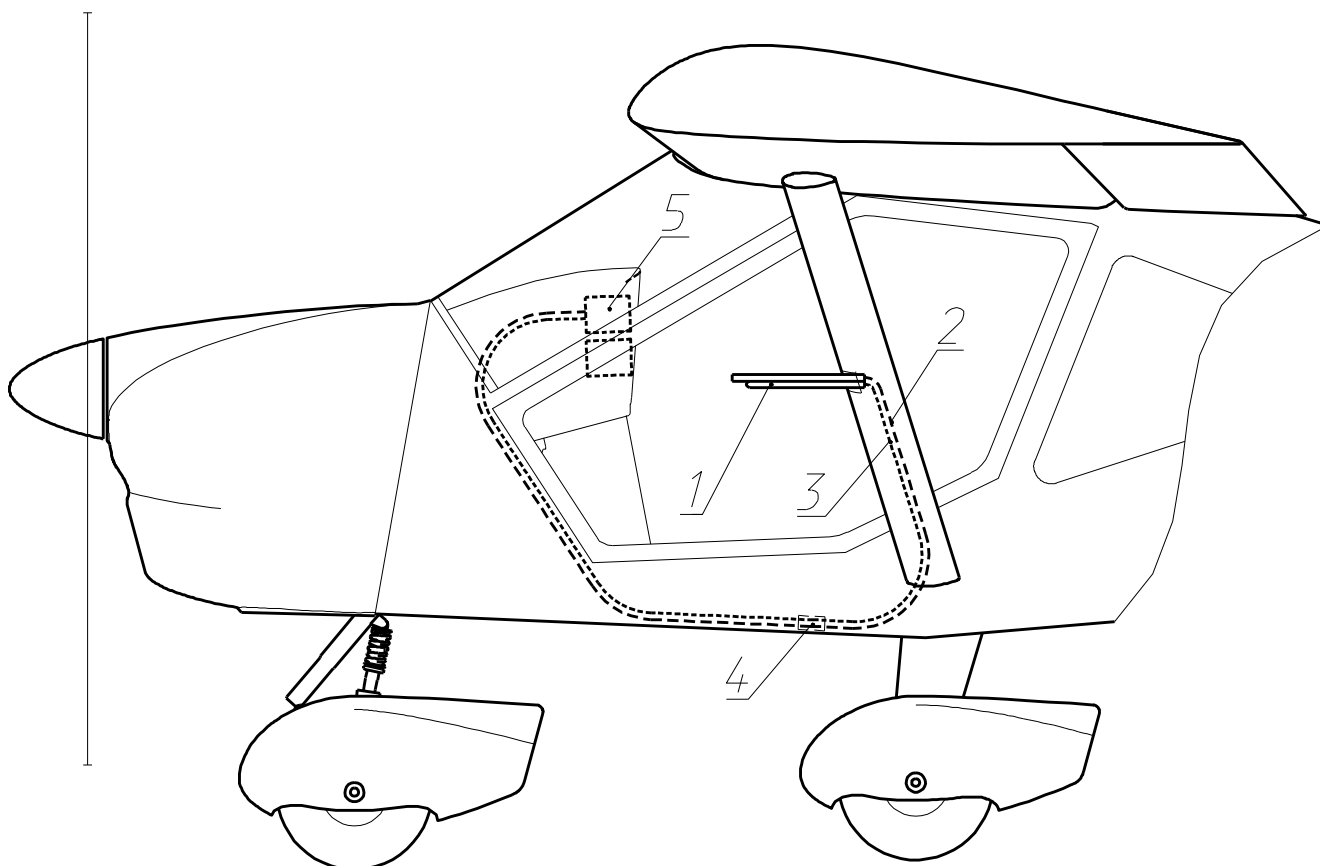

Fig. 14 Full and static pressure system
The full and static pressure system (see **Fig. 14**) supplies the full (dynamic) and static pressure of the outside air to the instruments measuring the flight parameters: airspeed, rate of climb and altitude. The system consists of the full and static pressure probe (1) and full (2) and static (3) pressure lines connecting the probe to the instruments. Full and static pressure lines have joints (4) for disconnecting the lines when the left wing is removed during aircraft disassembly.